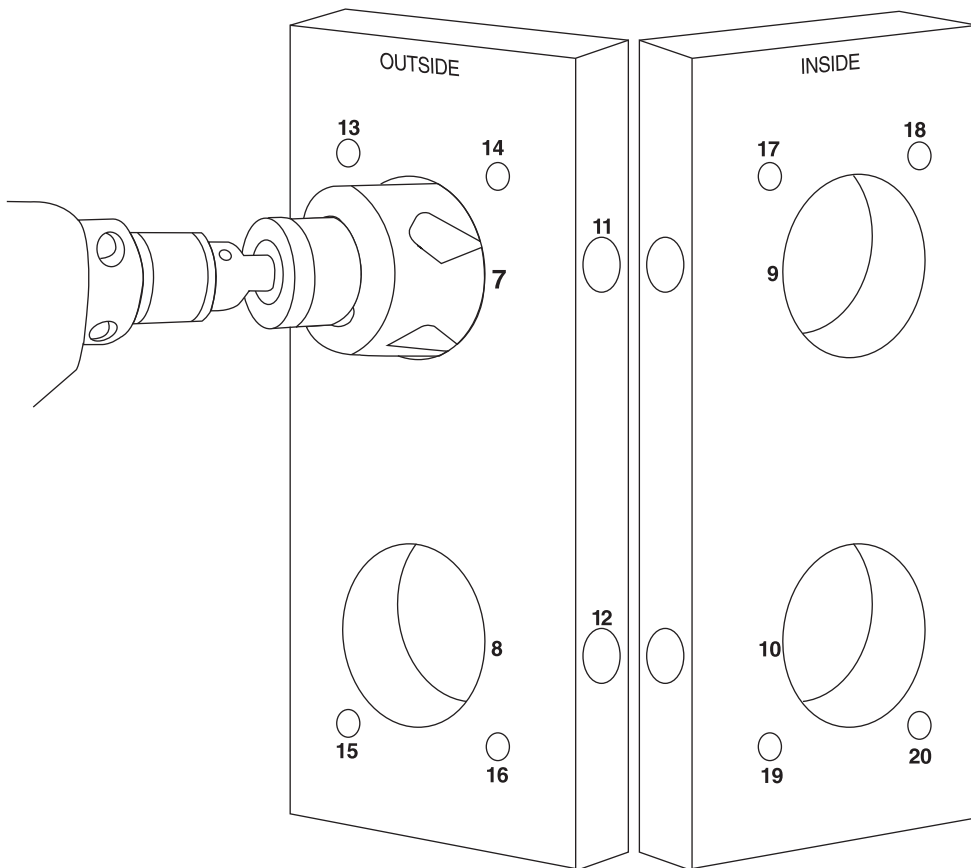

Figure 3
- h. Use 1/2" drill for holes 13~20 (Figure 3).